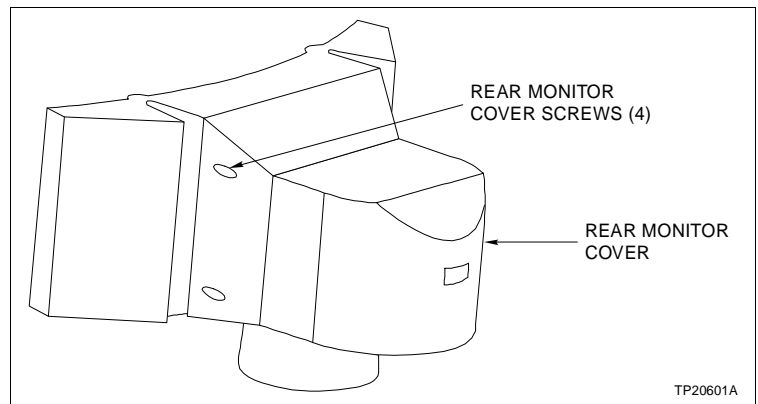

Figure PR48-1. Rear Monitor Cover
- 2. Use the Phillips head screwdriver to remove the four rear monitor cover screws (Fig. PR48-1).